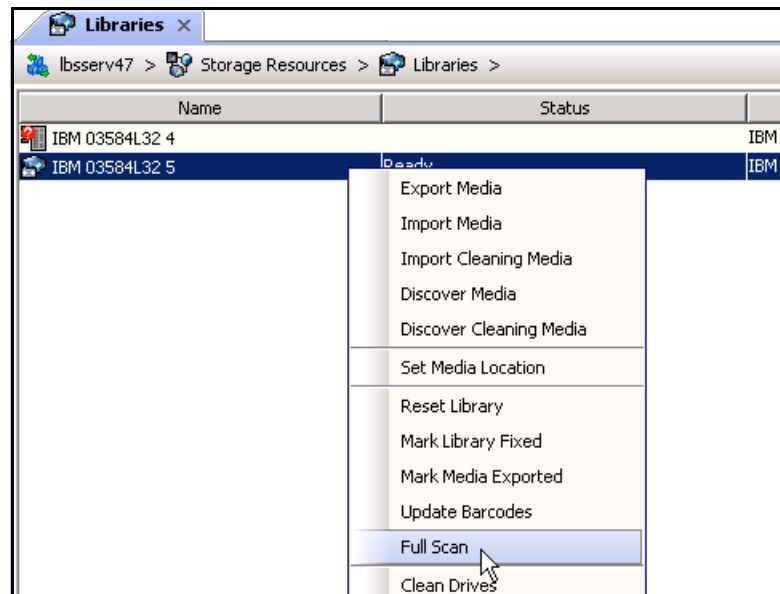

Figure 18-9 Perform a full scan of the library
11. Perform a full scan of the detected tape library by using the Full Scan option from the library menu (Figure 18-9).